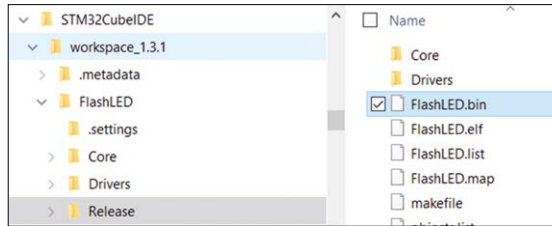

Figure 5.13: Location of the compiled binary file.
- If the program has been compiled without any errors, then the executable binary file will be located in the working directory (see Figure 5.13):